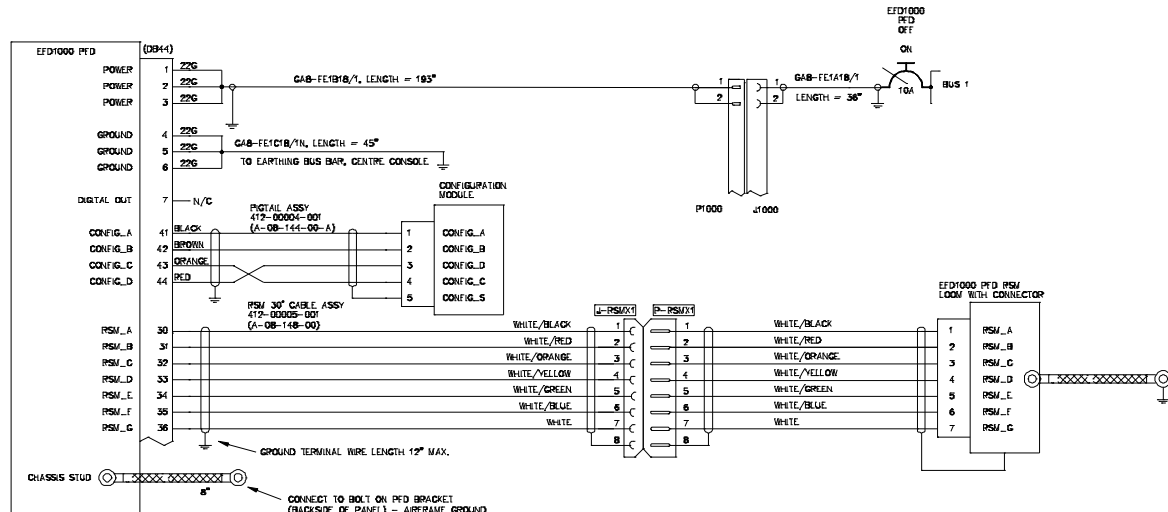

Figure 8: Aspen EFD 1000 PFD Wiring Diagram
2.10. Disconnect the RSM cable at the Aspen EFD end by unplugging the back shell connector. Depin the connector to remove the RSM cable from it. Refer to Figure 8
- 3.7. Terminate the two ends of the cut RSM cable in accordance with Figure 8 using the M24308/2-1F & M24308/4-1F 9-way connectors and mark the connectors as J-RSMX1 and P-RSMX1 respectively.
- 3.10. Attach the RSM cable to the back shell connector similar to the original connection that existed before step 2.10 was carried out. Refer to Figure 8.